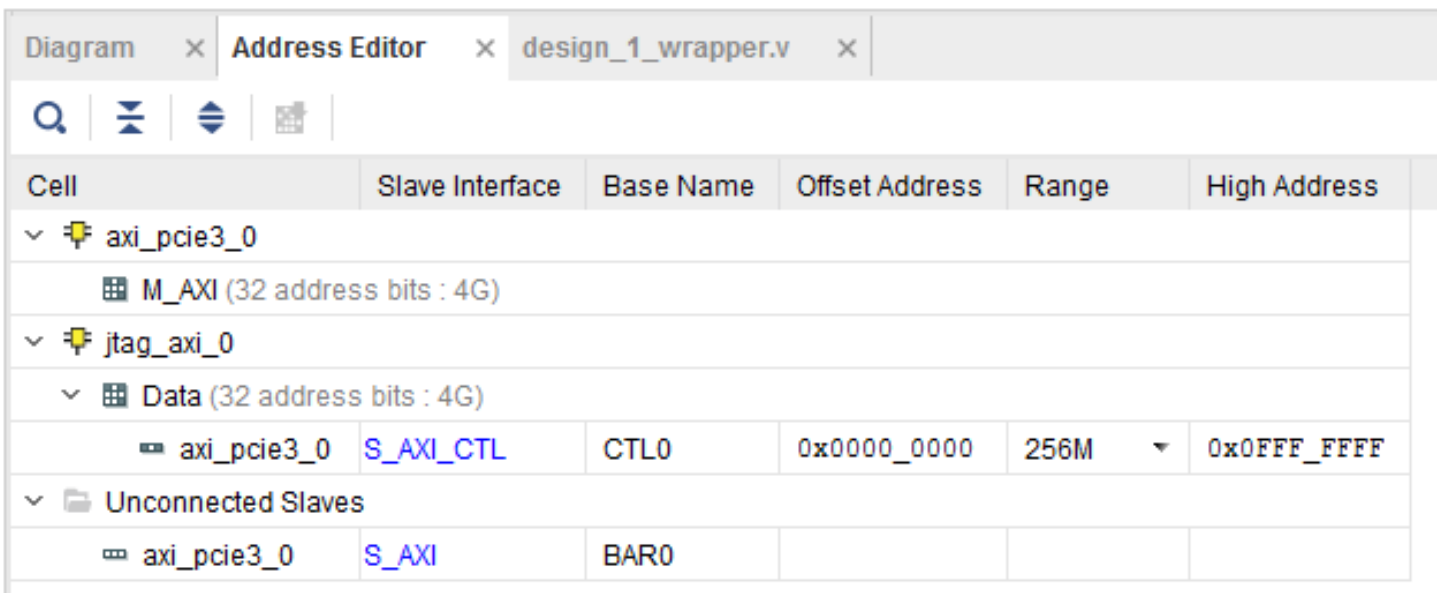

Figure 5 – IP Integrator Address Editor
Step 1: Open the Address Editor in Vivado block design to get the base address for the AXI PCIe address space. For the example shown in Figure 5, the base address is 0x00000000. This will be used as the base address for the AXI read and write commands.